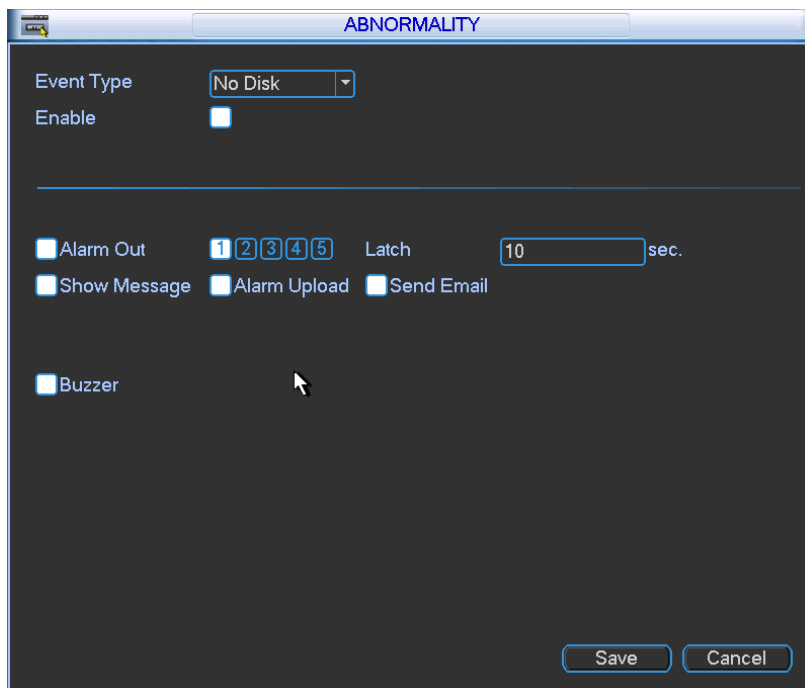

Figure 5-38
- Alarm set: Click alarm set button, the interface is shown as below. See Figure 5-38. (This interface is just like the abnormality setup). Please refer to chapter 5.5.2 for detailed information.